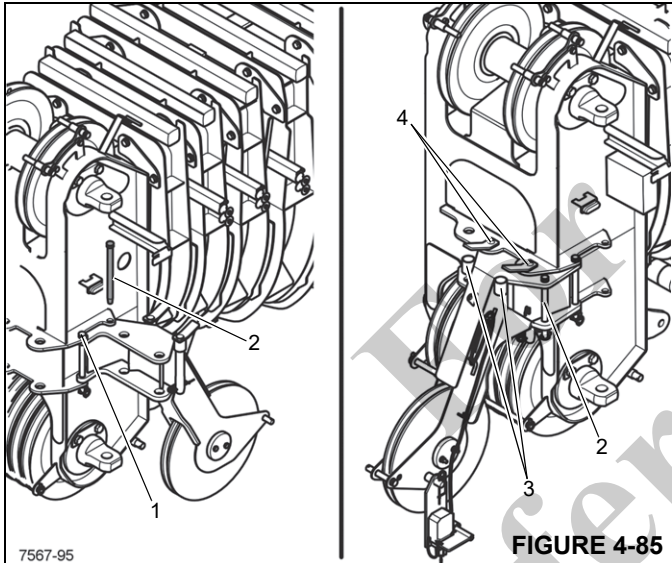

FIGURE 4-85
1. Verify the swivel pin (1) (Figure 4-85) is installed.
2. If necessary, remove the pin (2) from the transport lug.
1. Remove the cable retaining pins (1) (Figure 4-85) from the head of the main boom and from the auxiliary single-sheave boom nose.